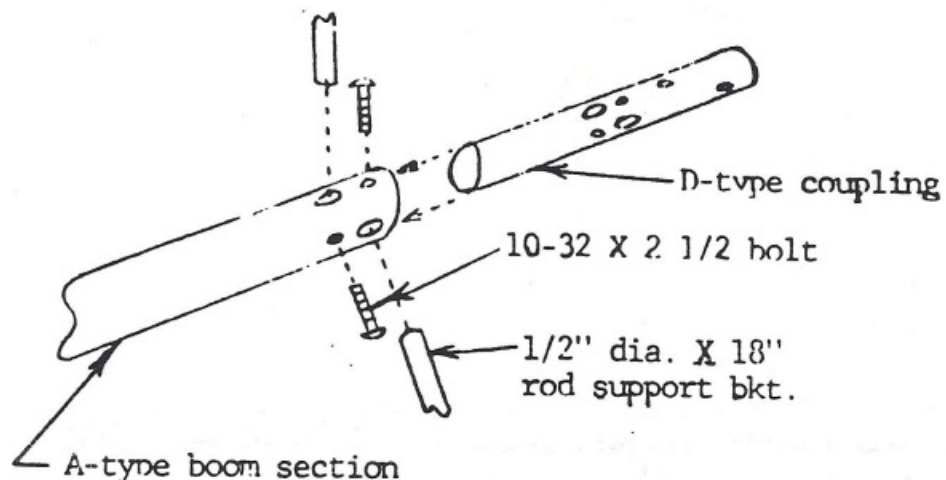

figure 4a
- Install the D-type coupling at the appropriate end of an A-type boom section. Install 2 rod support brackets after aligning the 1/2" holes. Refer to Figure 4a.